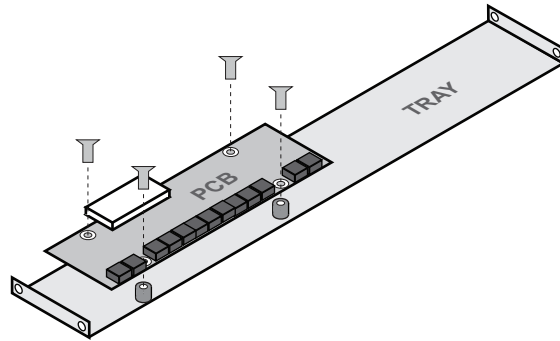

Figure 2.4 *Installing the Breakout PCB on the Rack Tray*
1. Position the Breakout PCB atop the screw posts on the tray. Refer to **Figure 2.4**.